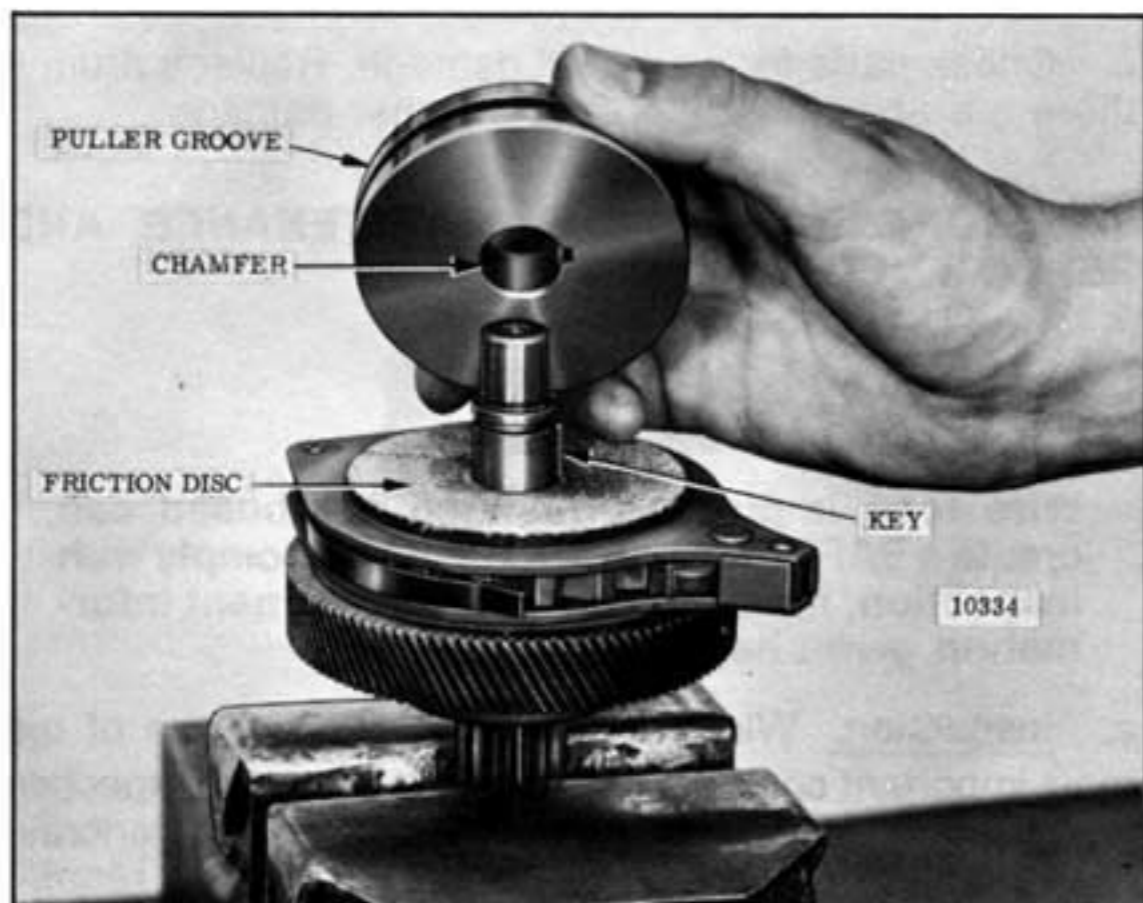

Figure 5-7. View Showing Load Brake Flanged Removed.
(3) When installing brake flange, position it with chamfer facing friction disc (Figure 5-7).
- Using a puller tool, remove brake flange from shaft. A groove is provided around outer diameter for this purpose. See Figure 5-7. Remove key from shaft and lift off 2 friction discs, and the pawl and ratchet assembly (Figure 5-8).